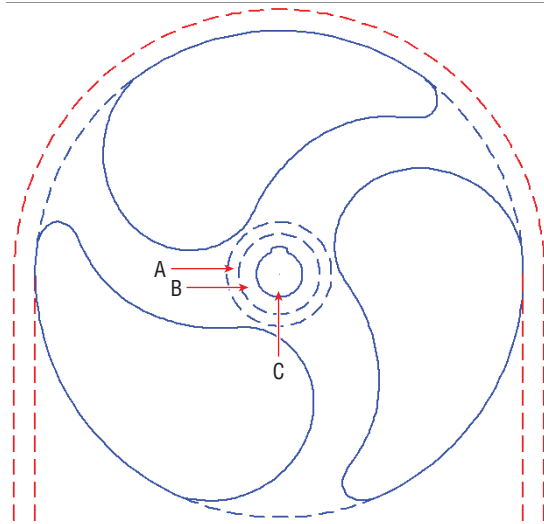

FIGURE 8.2 Picking a point to detect a boundary
3. Click the Hatch tool in the Draw panel on the ribbon's Home tab. Click point A in Figure 8.2.
9. Type **H** (for Hatch), and press Enter. Click point B in Figure 8.2.
12. Press the spacebar to repeat the last command. Click point C in Figure 8.2.